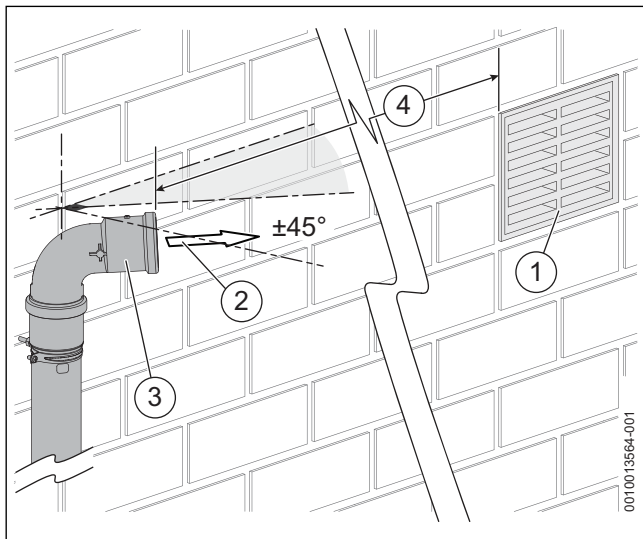

Fig. 52 Plume direction conditions
- ▶ The Plume terminal outlet position must follow the conditions stated in figure 52. When redirecting the flue discharge the outlet must be at least 1,500mm from and angle at least 45° away from any opening in the direction of the discharge, as shown. This is to prevent combustion products from entering the building.